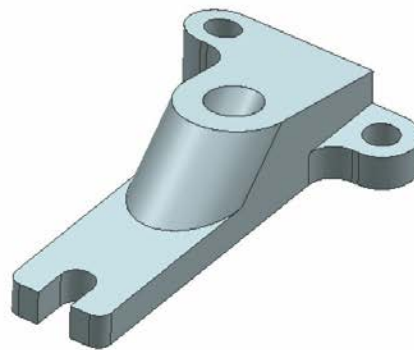

Figure 13-111 The resultant model
3. Enter **4** in the **Radius** edit box of the **Radius** rollout and choose the **OK** button from the dialog box. Figure 13-111 shows the rotated view of the resultant model.